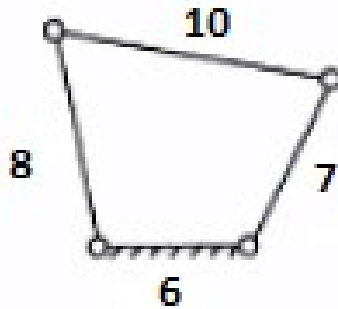

Fig: 4
- (b) Figures 4 and 5 below show few four bar mechanisms with the mention of dimensions of the links in standard unites. Indicate the type of mechanism and also determine whether the mechanism is crank-crank or crank-rocker or rocker-rocker.